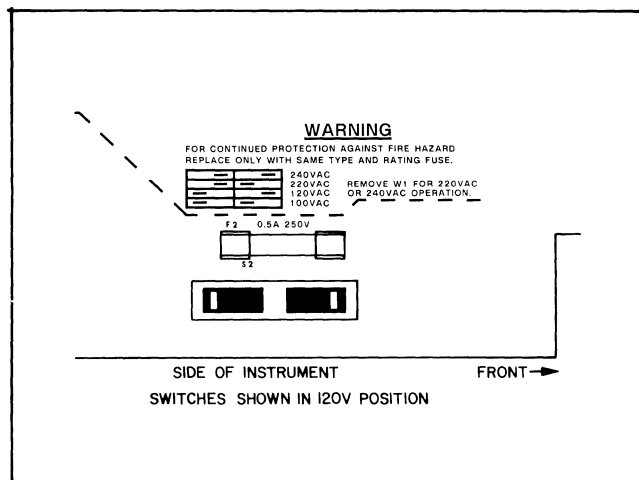

Figure 2-3. Line Voltage Select Switch
- The line voltage select switch is located on left side of main board (as viewed from front) near front of instrument (see Figure 2-3). Use a small-blade screwdriver to set the two switch sections to match the pattern silkscreened on main board as shown in Figure 2-3. For example, to set switches for 120V operation (as illustrated), move forward switch section so that its white slot is toward front of instrument and move rearward switch section so its white slot is toward rear of instrument.